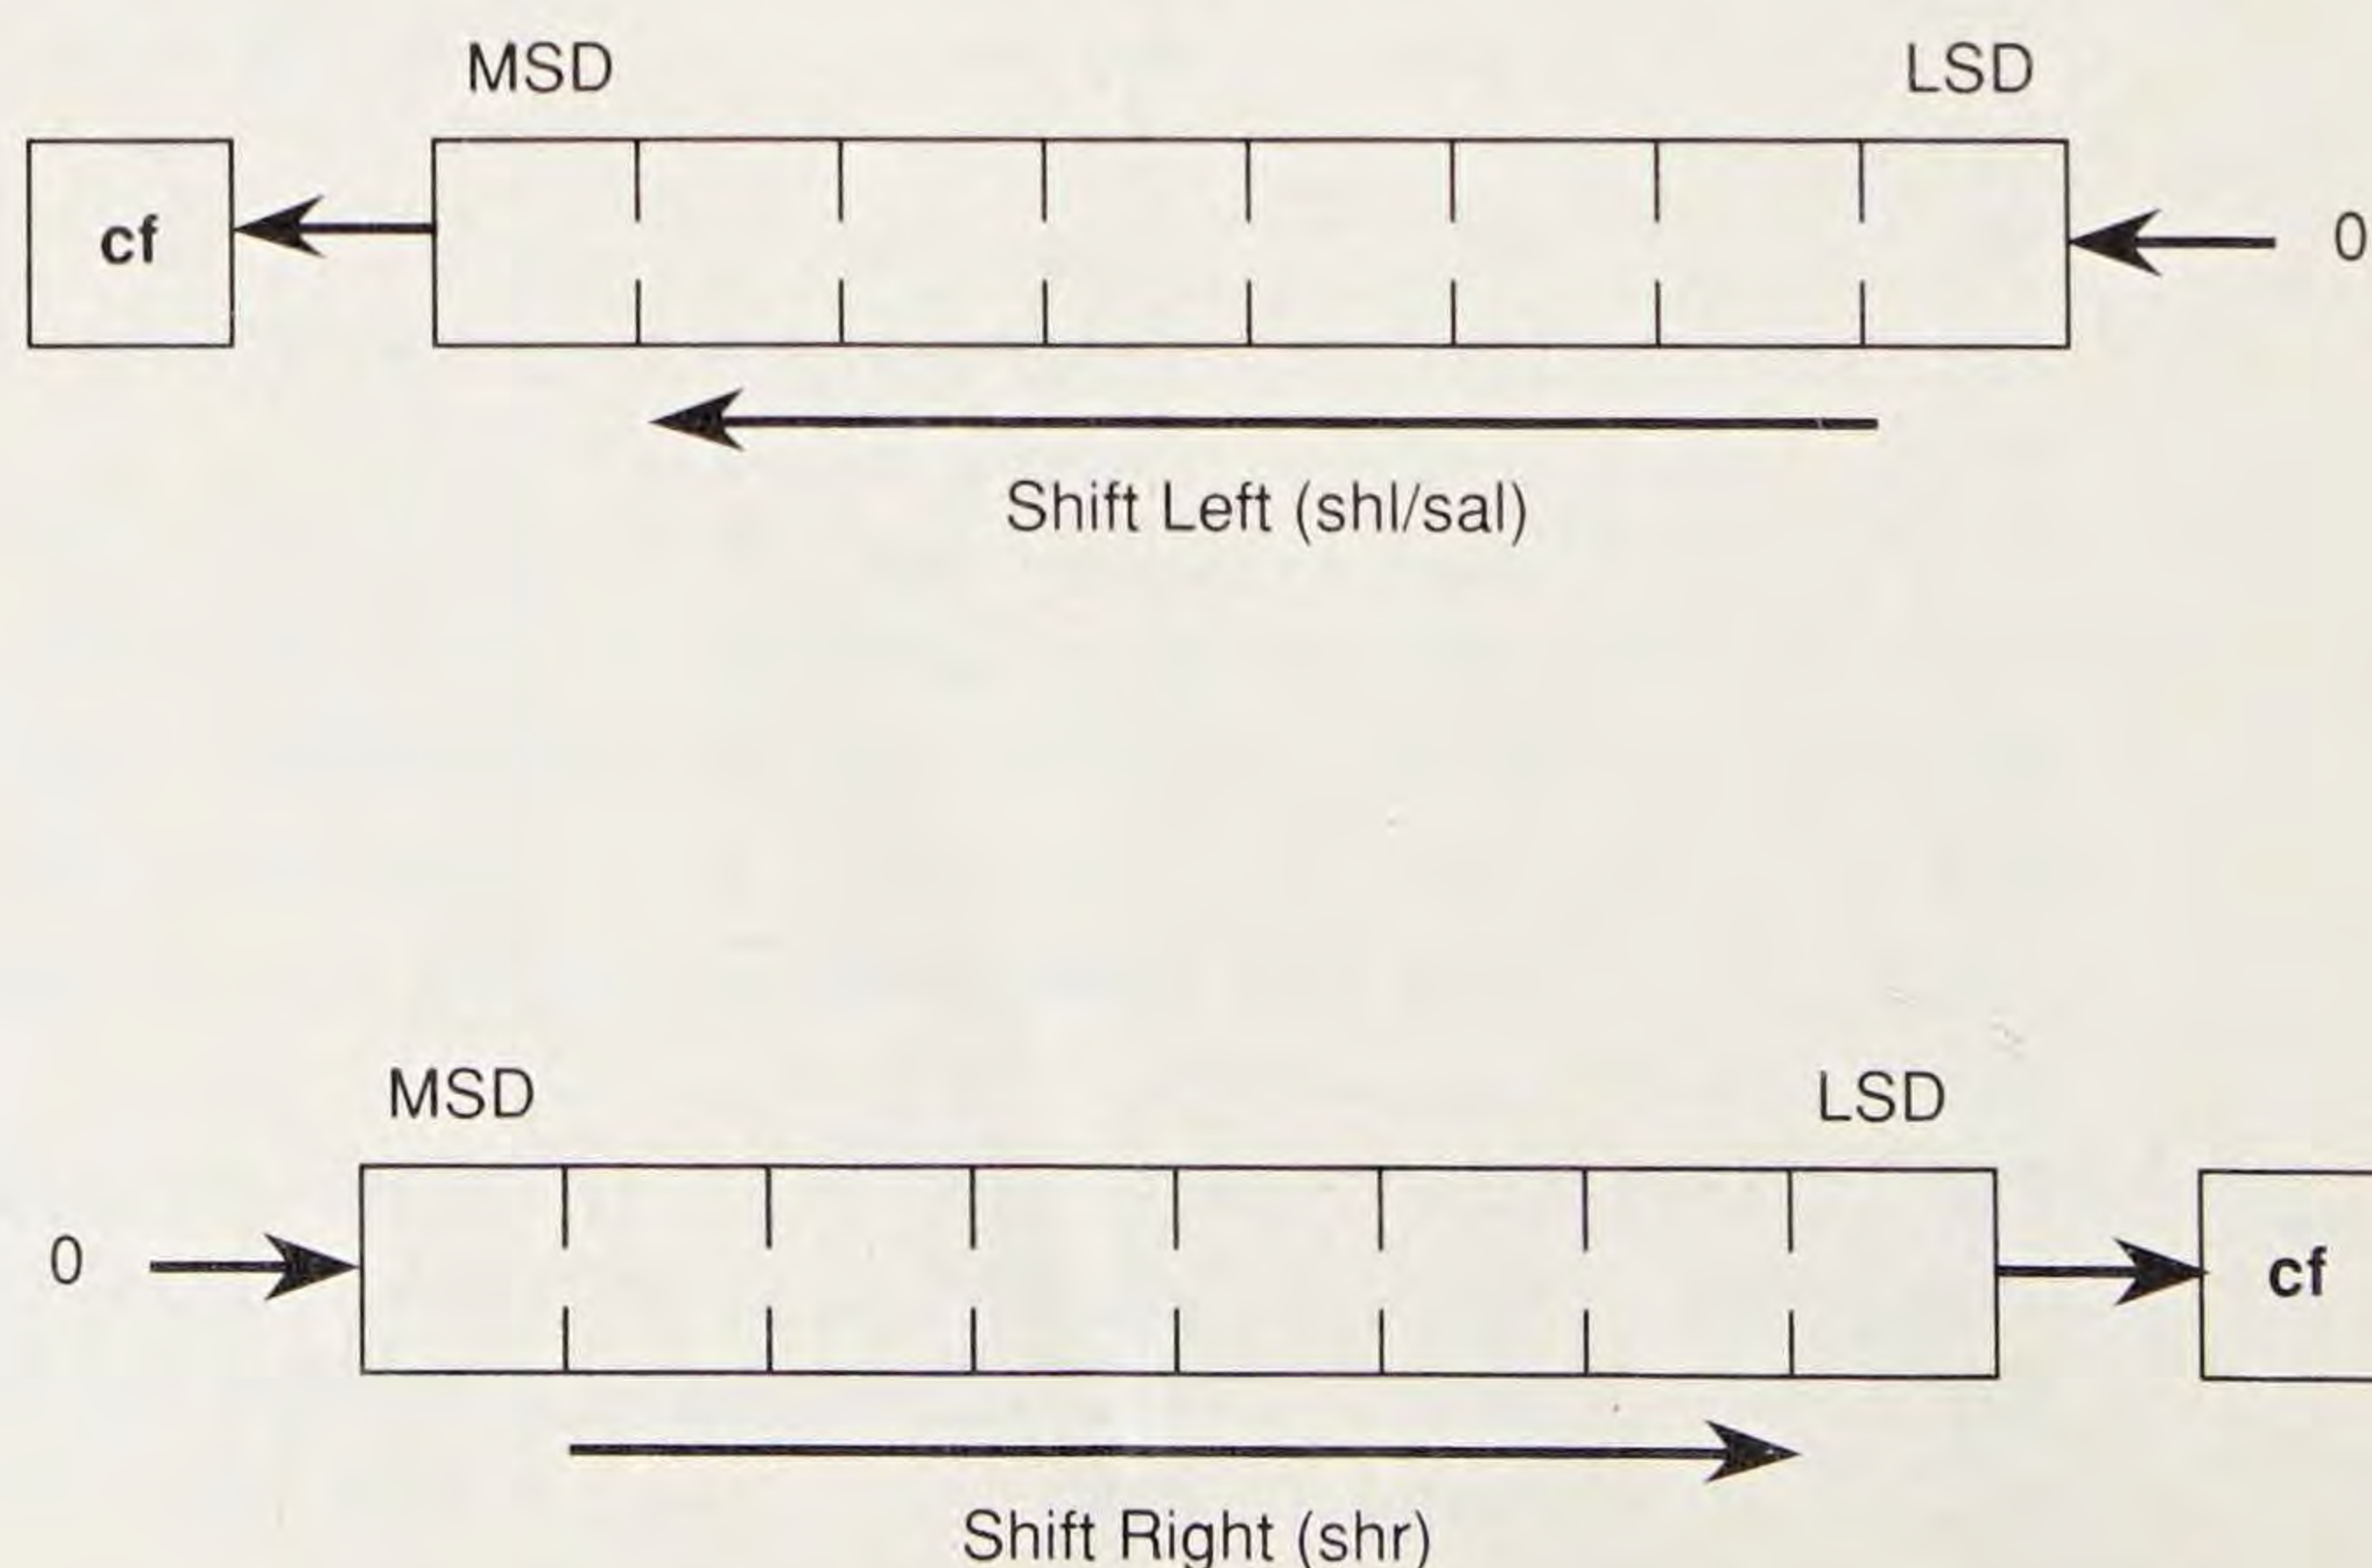

Figure 4-5 *The shl/sal and shr plain shift instructions.*
2. Figure 4-5 illustrates how the plain shift instructions `shl` and `shr` operate. Step through (F8) lines 19–20 to experiment with these. Each bit in the destination operand shifts one or `cl` positions to the left or right. For `shl`, bit 7 (MSD) moves into the carry flag (`cf`), while a 0 bit shifts in from the right. For `shr`, bit 0 (the LSD) moves into the carry flag, while a 0 bit shifts in from the left.
Note: Although Figures 4-5 through 4-8 show only 8-bit bytes, all shift instructions can operate on 16-bit values, too. For this reason, bit numbers are not shown in these diagrams.